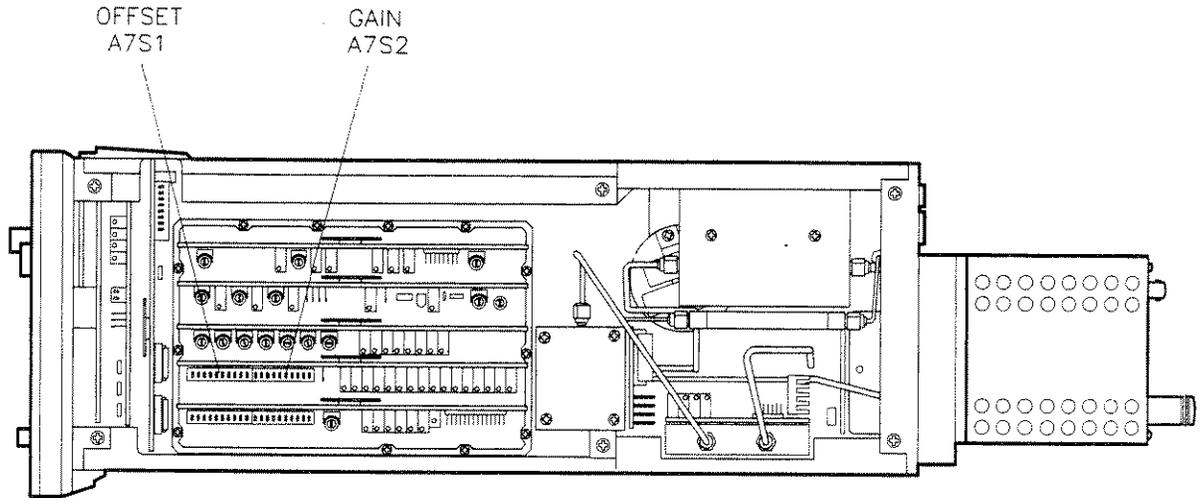
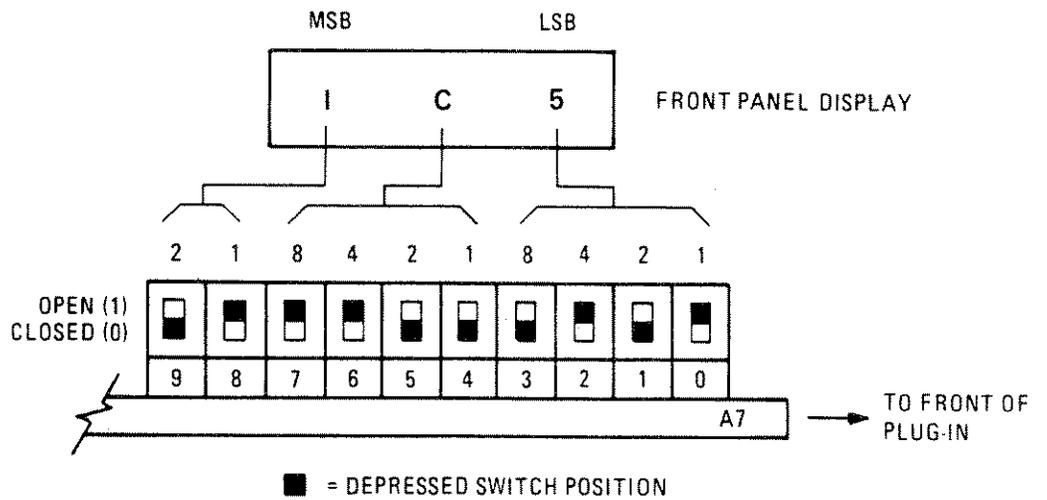

Figure 5-21. YTM to YO Tracking Calibration Switch Locations
Figure 5-22. YTM to YO Tracking Calibration Switch Configuration
- Enter the number displayed on the plug-in POWER DISPLAY into A7S1 as shown in figure 5-22. See figure 5-21 for the switch location.
- Enter the number displayed on the plug-in POWER display into A7S2 as shown in figure 5-22. See figure 5-21 for the switch location.